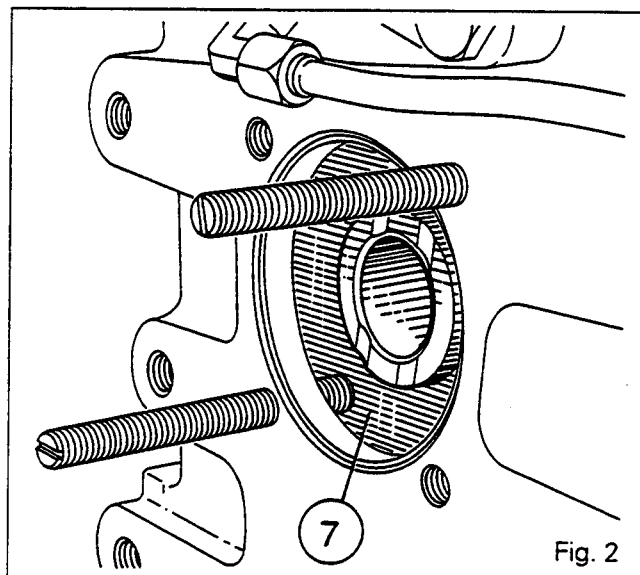
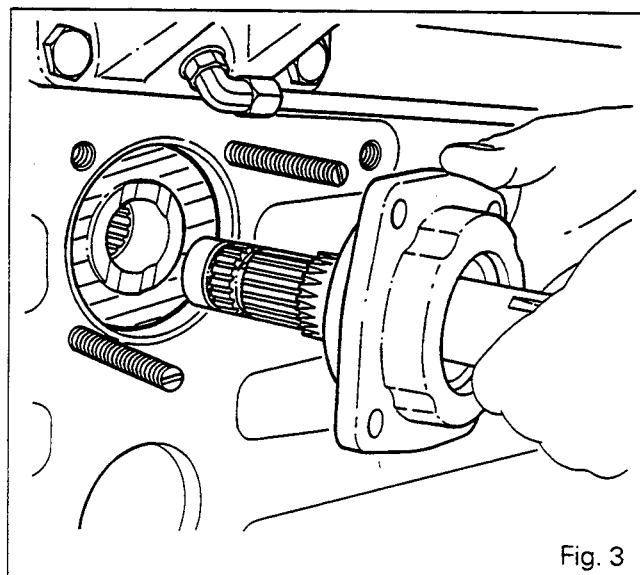

Fig. 2
Fig. 3
4. Screw two guide studs against the gear (7). The purpose of this is to hold the gear (4) and (7) (Fig. 2), the hub and the coupler in line when removing the shaft (13) and the cover assembly.
5. Remove the other two bolts (15).
6. Withdraw the shaft and cover assembly (Fig. 3). Discard the O-ring (18).
7. Replace the O-ring (18). Fit the shaft and cover assembly (Fig. 3).
8. Smear Loctite 542 on two screws (15) then tighten to a torque of 105 - 120 Nm.
10. Smear Loctite 542 on the other two screws (15) then tighten to a torque of 105 - 120 Nm.